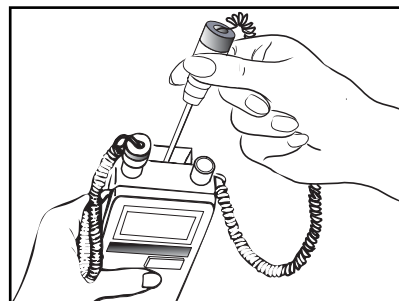

Figure 3 - Installing Probe Cover
- Figure 3 Installing Probe Cover . . . . . 9
For oral temperature measurement use the blue, oral probe. Insert the probe completely and firmly into a probe cover to ensure a secure fit (see Figure 3). Failure to firmly install the probe cover may result in the probe cover becoming loose or disengaging during use. **Be careful not to press the probe ejection button (where the cord exits the probe) as this might loosen or eject the probe cover.**